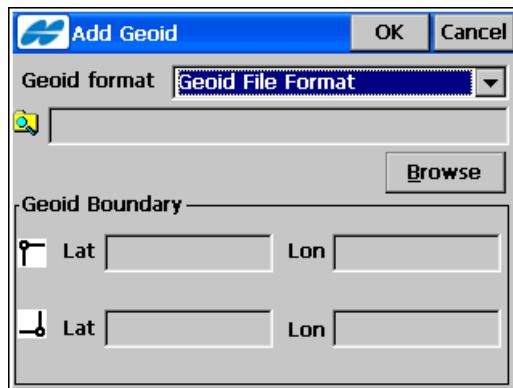

Figure 3-21. Geoid Parameters
- **Edit** – opens the *Add Geoid* screen (Figure 3-21 on page 3-25) to change the geoid.
- **Add** – opens the *Add Geoid* screen (Figure 3-21 on page 3-25) to add a geoid file to the list. Install the geoid file prior to adding it to the list. Some geoid files can be installed during TopSURV installation. They are provided to the user with the TopSURV installation program as ‘.gff’ files.
On the *Add Geoid* screen (Figure 3-21 on page 3-25), select a Geoid file to view the boundaries of the geoid application.